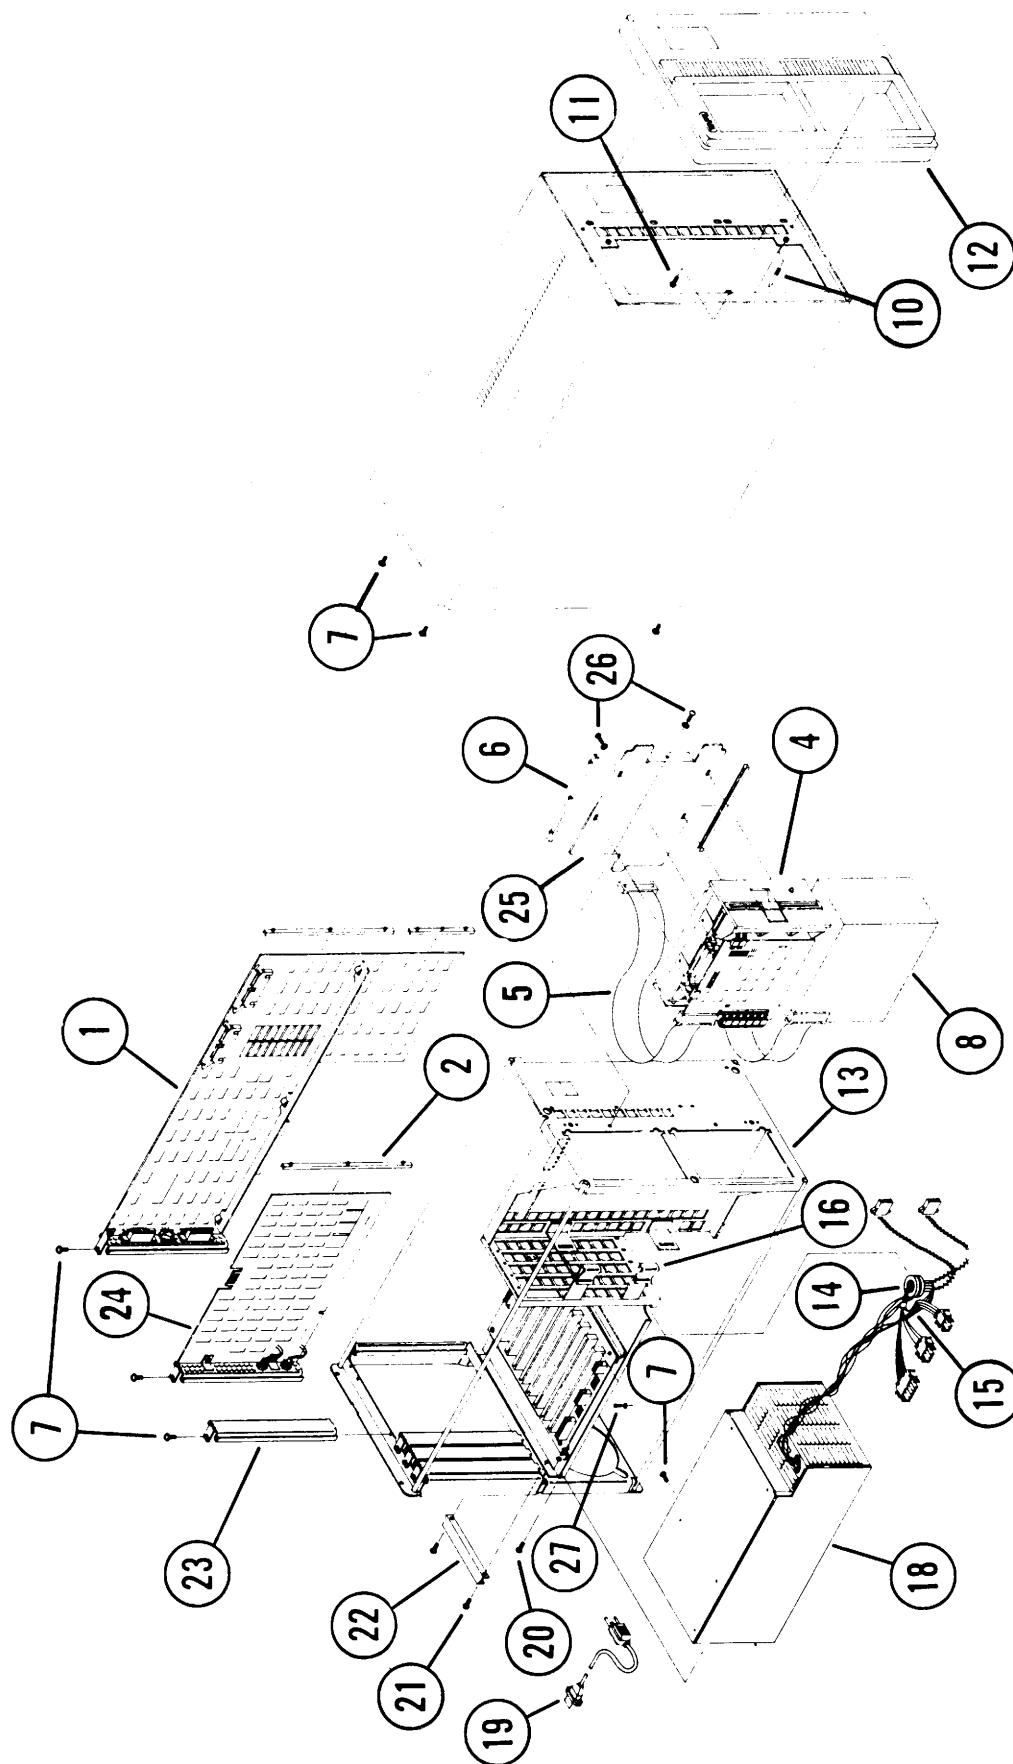

Figure 7-1. Expanded Chassis PC IPB
- o Figure 7-1. Expanded Chassis Electronics Enclosure